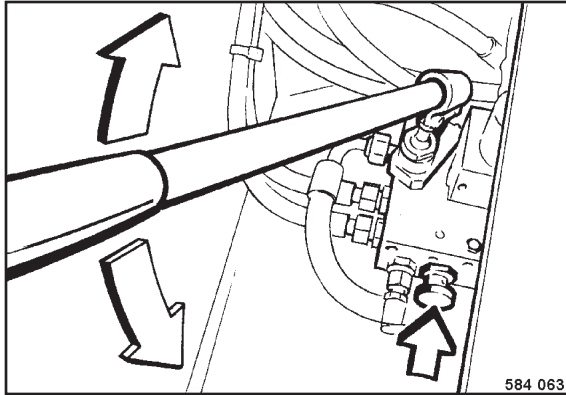

Fig. 72
- Press the emergency operation button (Fig. 72) completely down.